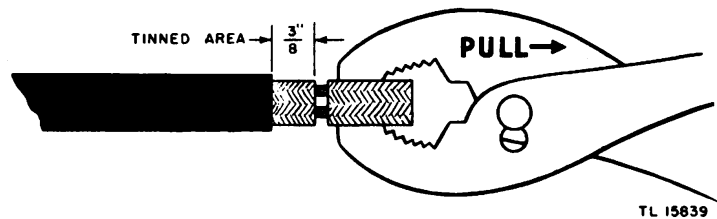

Figure 14. Coaxial cable, with excess braid removed.
- e. Carefully cut around the untinned braid and remove it from the cable (fig. 14).